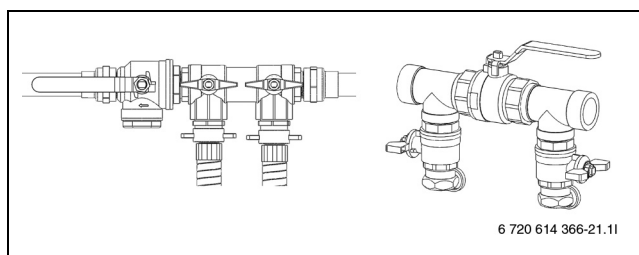

Fig. 40 Filling units in normal position
- ▶ Turn the valves of the filling unit to normal position (→ Figure 40) and turn off the pump on the filling station.